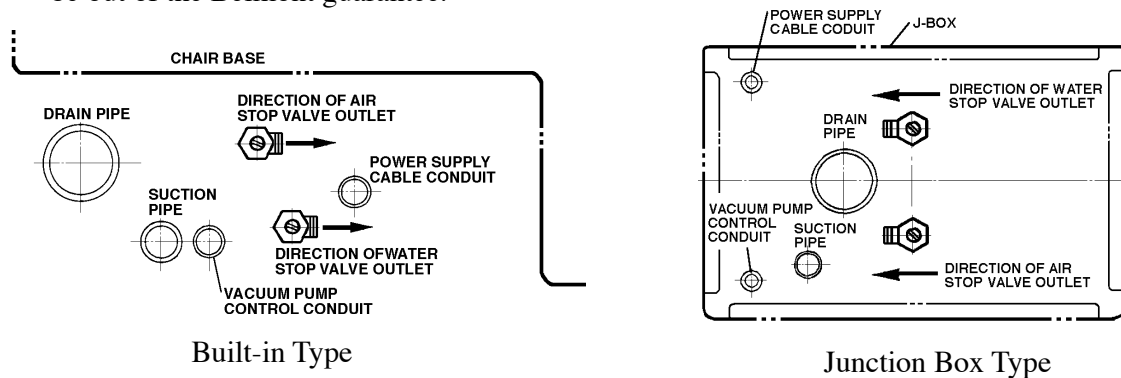

Fig.3-1 Direction of Outlet for Water and Air Stop Valves
(2) Fix the water and air stop valves to the water and air supply pipes by using a seal tape or a liquid seal. The direction of water and air valves are shown in Fig.3-1.
(3) After connection of the water and air valves, once open the water and air valves and flush out dust and chips in the water and air supply lines.